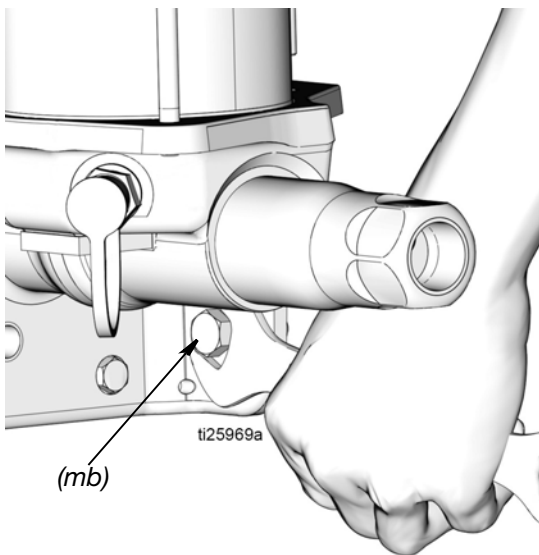

FIG. 10
5. Remove mounting bolts (*mb*) (FIG. 10) and remove pump from service.